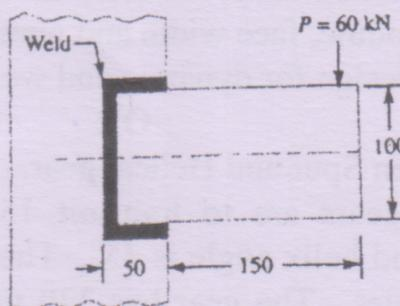

Figure 3: welded joint
- V. Determine the weld size of the rectangular steel plate welded as a cantilever as shown in the fig. 3, if shear stress is not to exceed 140 MPa. (20)